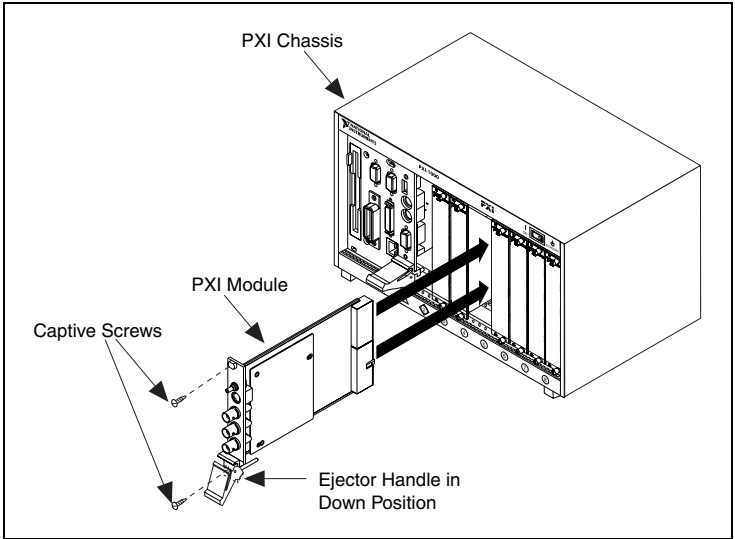

Figure 1. PXI Installation
5. Holding the module by the ejector handle, slide it into an empty slot, ensuring that the base card (the card on the left when looking at the front of the module) engages with the card guides in the chassis, as shown in Figure 1.